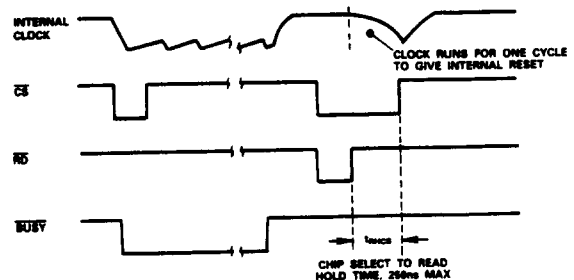

Figure 7. Chip Select to Read Timing
2.  $\overline{CS}$  must return HIGH within 250ns after  $\overline{RD}$  goes HIGH otherwise a new conversion may be initiated and the AD7574 will begin operating in the ROM mode (see Figure 7).